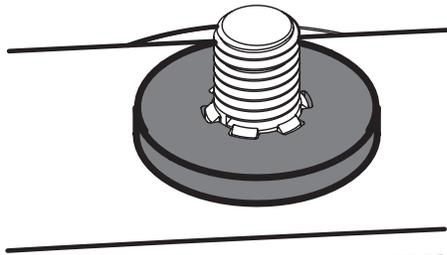

Figure 45
- Carefully place the flat washer on the spindle shaft. Be sure that the splines at the base of the spindle shaft threads line up with the washer splines (Figure 45).